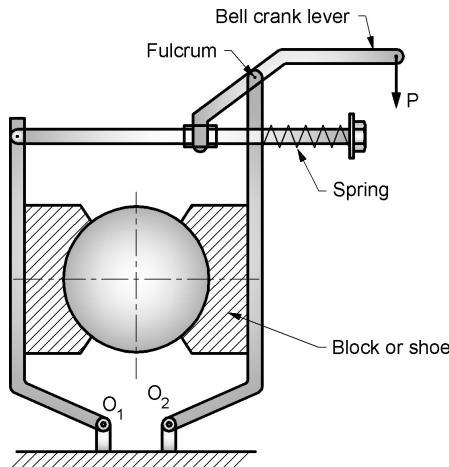

Fig. 7.12 Double block or shoe brake
- (1) When a single block brake is pressed against a rotating drum an unbalance load acts on the shaft bearing supporting the drum. This produces bending in shaft.
- (2) This drawback is overcome by using double block or shoe brake which consists of two blocks on opposite side of the rotating drum as shown in Fig. 7.12. This eliminates any unbalanced force.
- (3) Upper end of the brake arm is held together by the spring as shown in Fig. 7.12. When the force is applied on the bell crank lever, spring is compressed and brake is released.